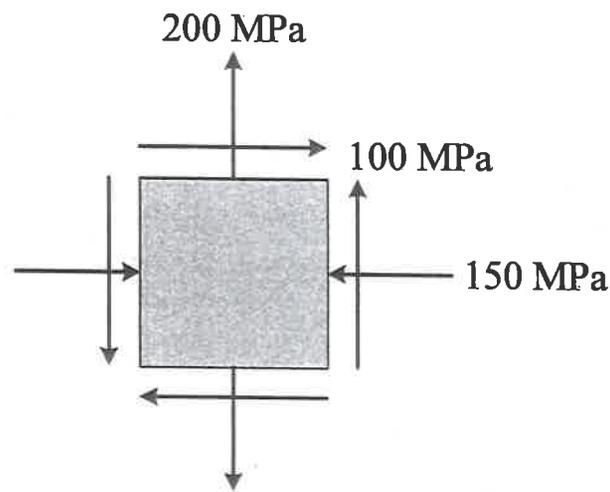

Fig. 5
5. (30%) The state of plane stress is shown in Fig. 5, determine